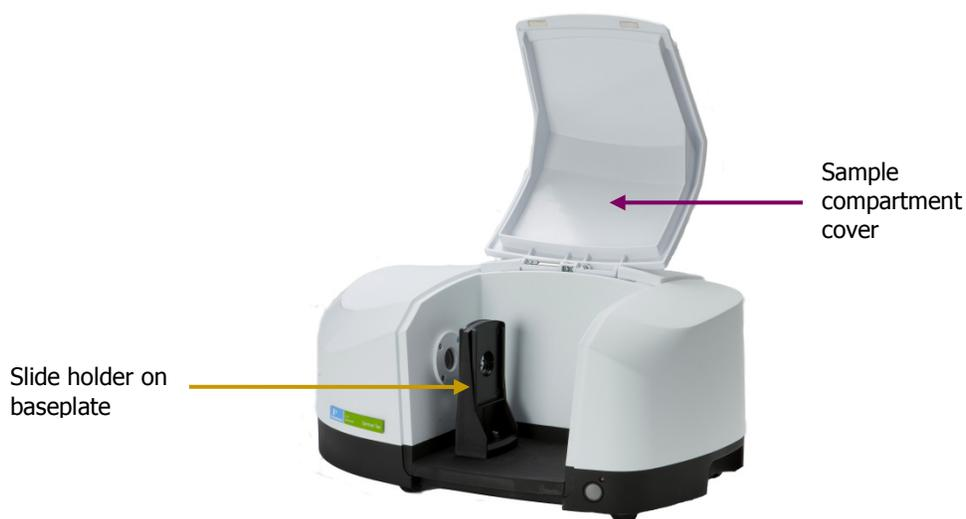

Figure 24 Removing the sample compartment cover
1. If you are installing a UATR, you will need to remove the sample compartment cover (Figure 24), if fitted.